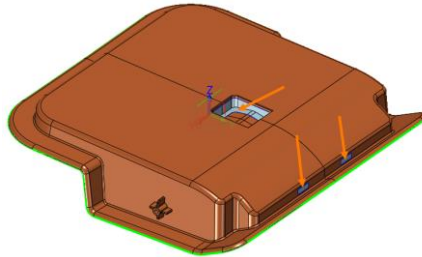

Figure 45 Result of Patch Faces
STEP2 Click **OK**. Result is shown in Figure45.